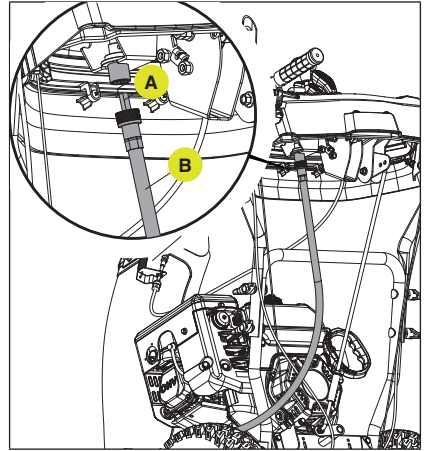

Figure 7
Locate the thick chute cable (A) zip tied to the lower handle and connect under the panel. Make sure this cable is routed underneath the lower handle as shown before assembly to the control panel. Align center, insert, then tighten cap (B) clockwise until snug. (Fig. 7)